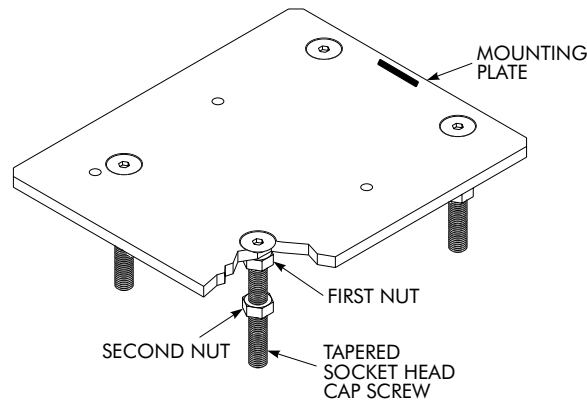

Figure 2.3.1a
1. Place top motor mounting plate/cap screw assembly onto the mounting brackets so that the part number on the plate is towards the output end of the reducer; reference Figure 2.3.1a.